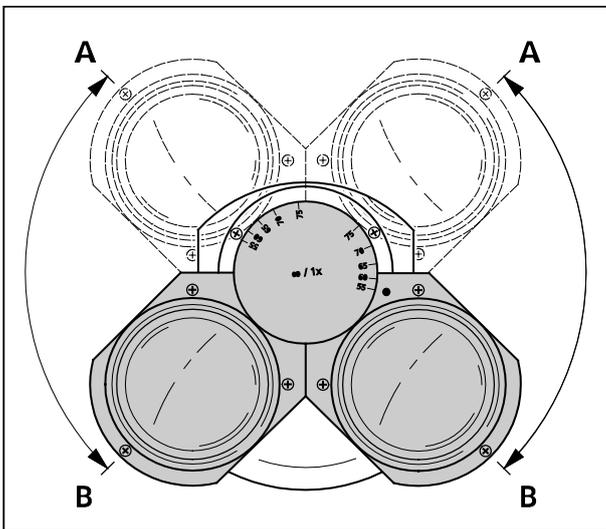

**Fig. 3-6** Setting the interpupillary distance on the binocular tube
- To adjust the eyepiece distance to your individual interpupillary distance, swing the eyepiece tubes symmetrically toward or away from one another (Fig. 3-6).